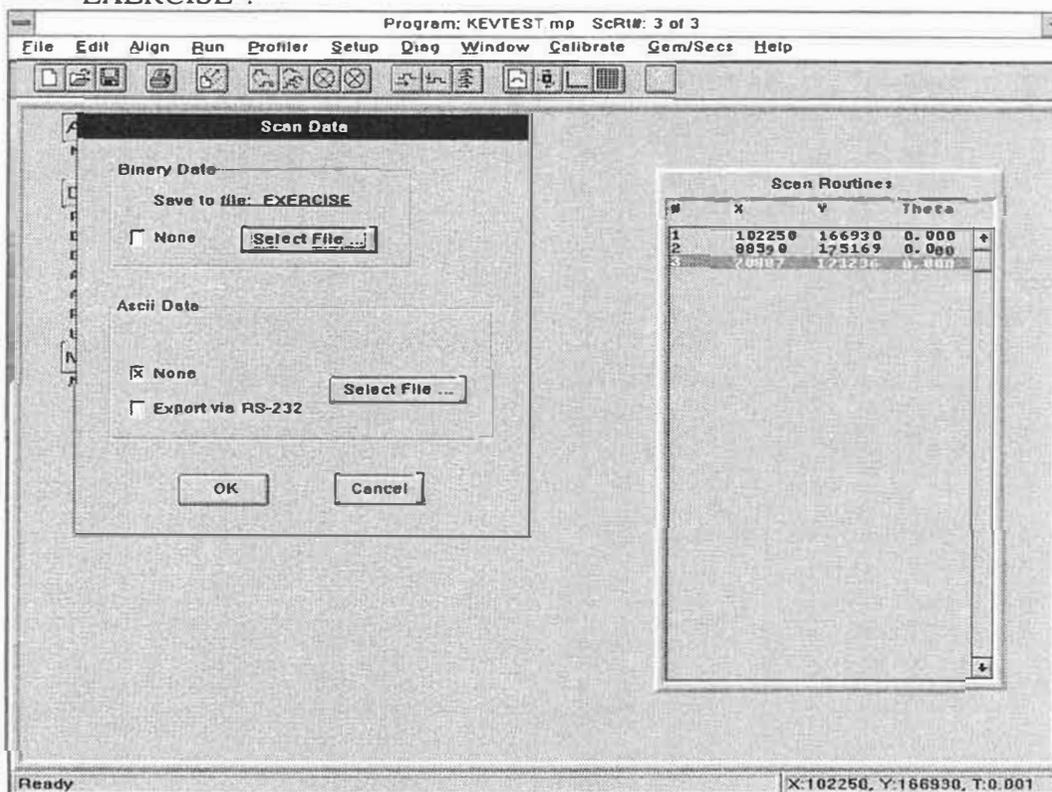

Figure 5-9. Data File Directory
1. Click-on the "Data File" option in the Automation Programs screen. A dialogue box will be displayed permitting the data to be saved either at binary data or ASCII data (see Figure 5-9). Click-on "Select File" under binary data. A dialogue box will be displayed containing a directory listing of the Data Plot screen previously saved in the "V 200-Si" file.